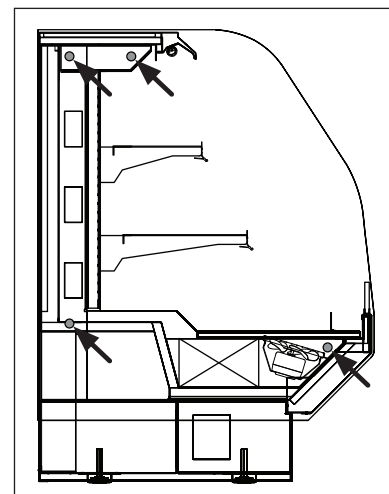

Fig. 5 Bolt locations
4. Push the cases tightly together, then lightly bolt them together through the holes provided (Fig. 5). Tighten all the joining bolts until all margins are equal. Be careful not to over tighten.